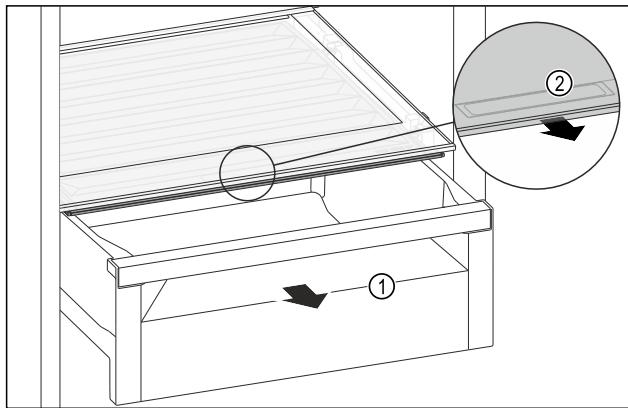

Fig. 139
- ▶ Pull out the drawer Fig. 139 (1).
- ▶ Grasp the recessed grip Fig. 139 (2) on the compartment lid and pull the compartment lid forwards at the same time.